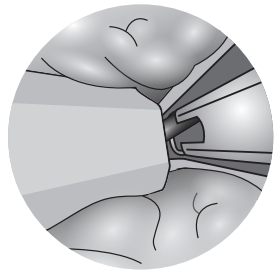

Figure 7
CAUTION: Failure to position suture against closest edge of keyhole (example shown in **Figure 7**, below) may result in Urethral End-Piece misdeployment or incomplete suture cut.
- 3.5** Press the Urethral Release button toward the telescope (**Step 4, Figure 7**) to deploy Urethral End-Piece and cut the excess suture. After the Urethral Release button is pressed, the complete implant has been deployed. If the suture is not fully cut after pressing the Urethral Release button, follow Step 5.3 to manually cut the suture. No further implants can be delivered using the same Delivery Device.